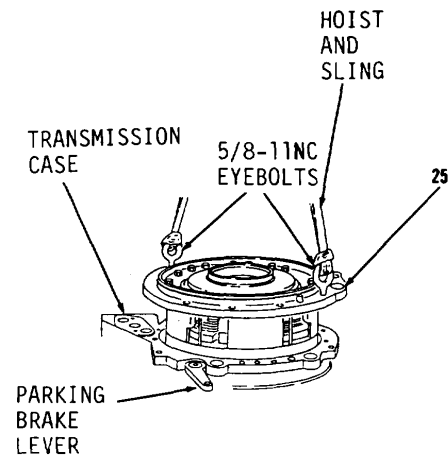

Figure 14-38.
18. Install two 5/8-11NC eyebolts in planetary housing (25, Figure 14-38).
1. Install two 5/8-11NC eyebolts in planetary housing (25, Figure 14-38).
2. Install hoist and sling on two 5/8-11NC eyebolts and lift planetary housing (25).